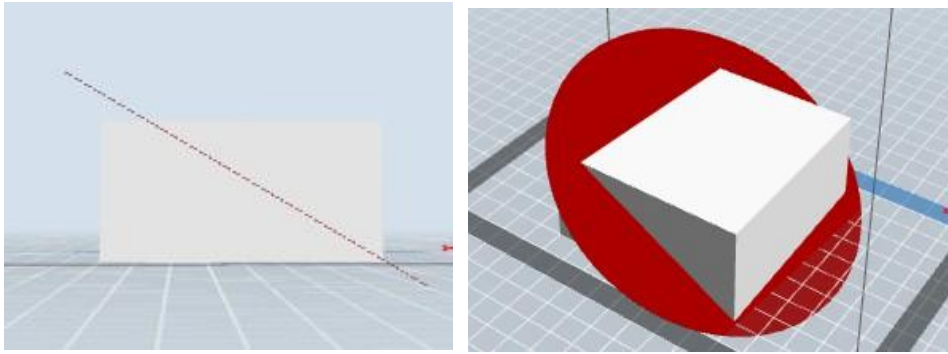

Figure 5 Mouse drawn cutting interface
① **Draw with Mouse:** As shown in Figure 5.